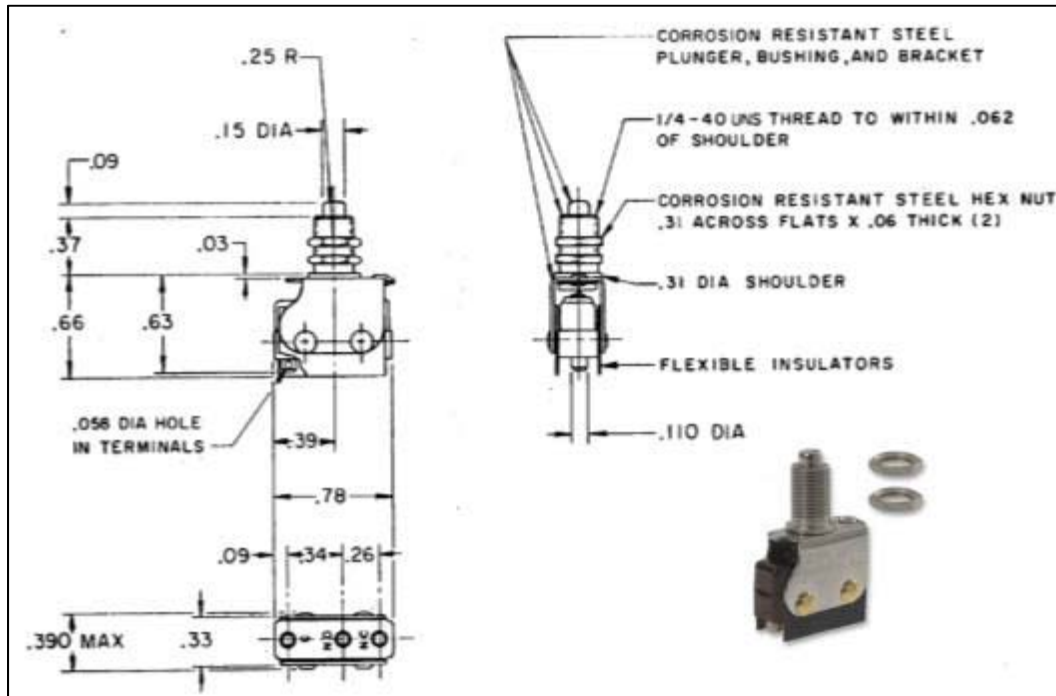

Figure 6.1. TU03273 door switch dimensions (1PB5).
- Modify installation site as required, refer to Figures 6.1. and 6.2.